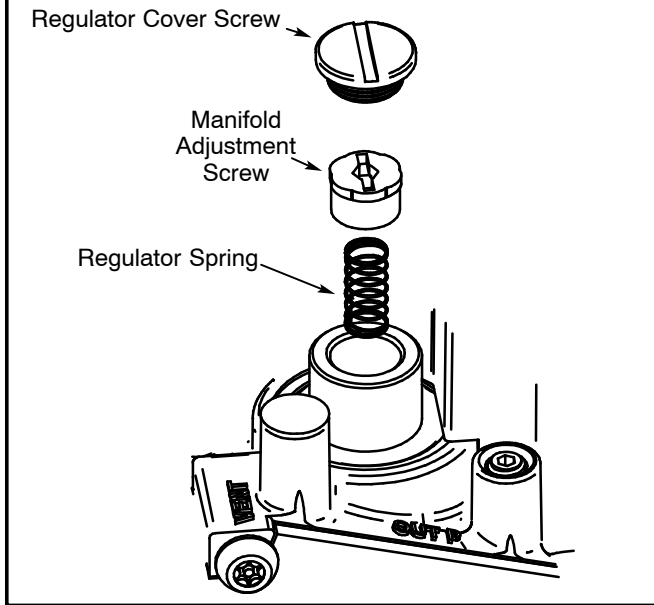

Figure 2
- 6 - Replace the gas valve regulator spring under the manifold pressure adjustment screw. See figure 2.